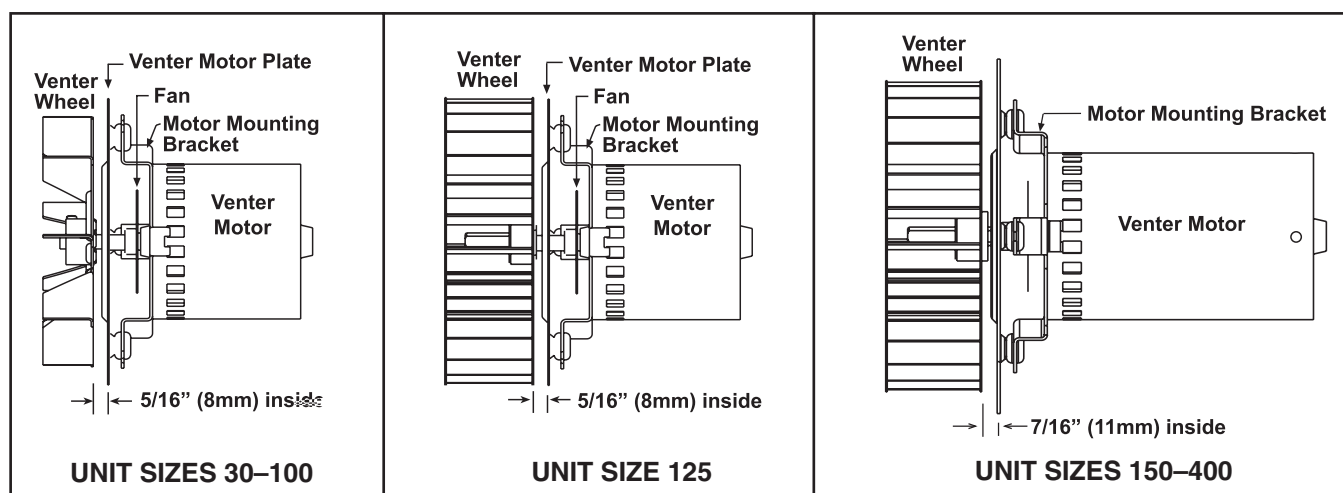

Figure 24. Venter Wheel and Motor Assembly
6. Reassemble with replacement venter motor and wheel. Ensure that venter wheel is properly positioned on shaft (see Figure 24).